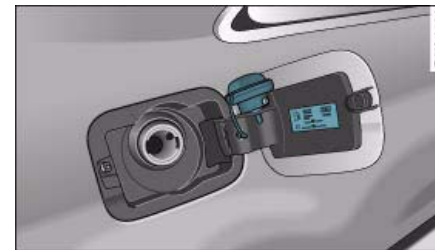

Fig. 208 Fuel tank flap with tank cap attached
- Hook the cap onto the open flap ⇒ *page 217*, fig. 208.